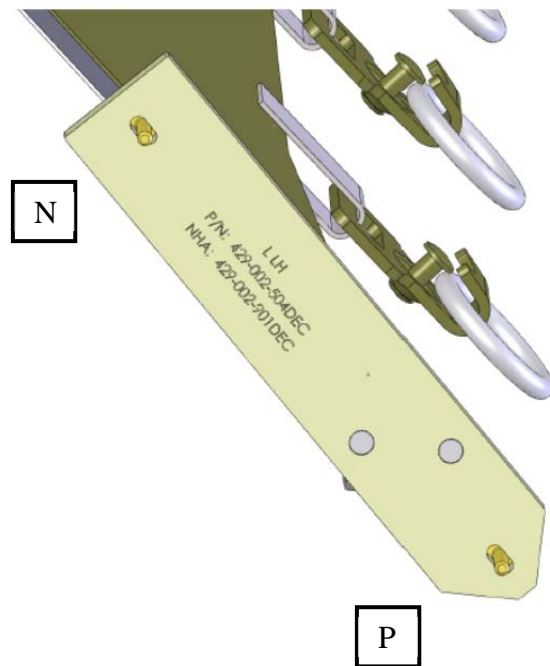

Figure 7.9.1
- 7.9** Continue with the lower left hand (**L LH**) bracket assembly. Install the liner screw at location '**N**' through the top slot of the bracket until it is hand tight and will assist in holding the bracket out of the way while the second screw at location '**P**' is installed. Torque all screws to 18-22 in-lbs each. See Figure 7.9.1.